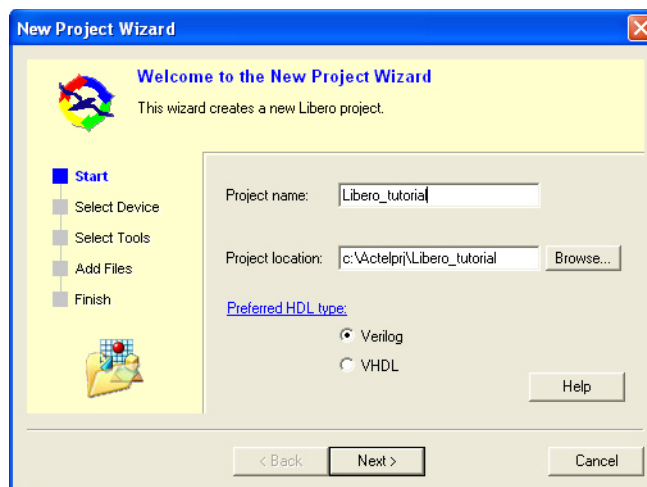

Figure 1-2 • Libero IDE New Project Wizard
3. Enter the following values (as shown in Figure 1-2), and click **Next**.